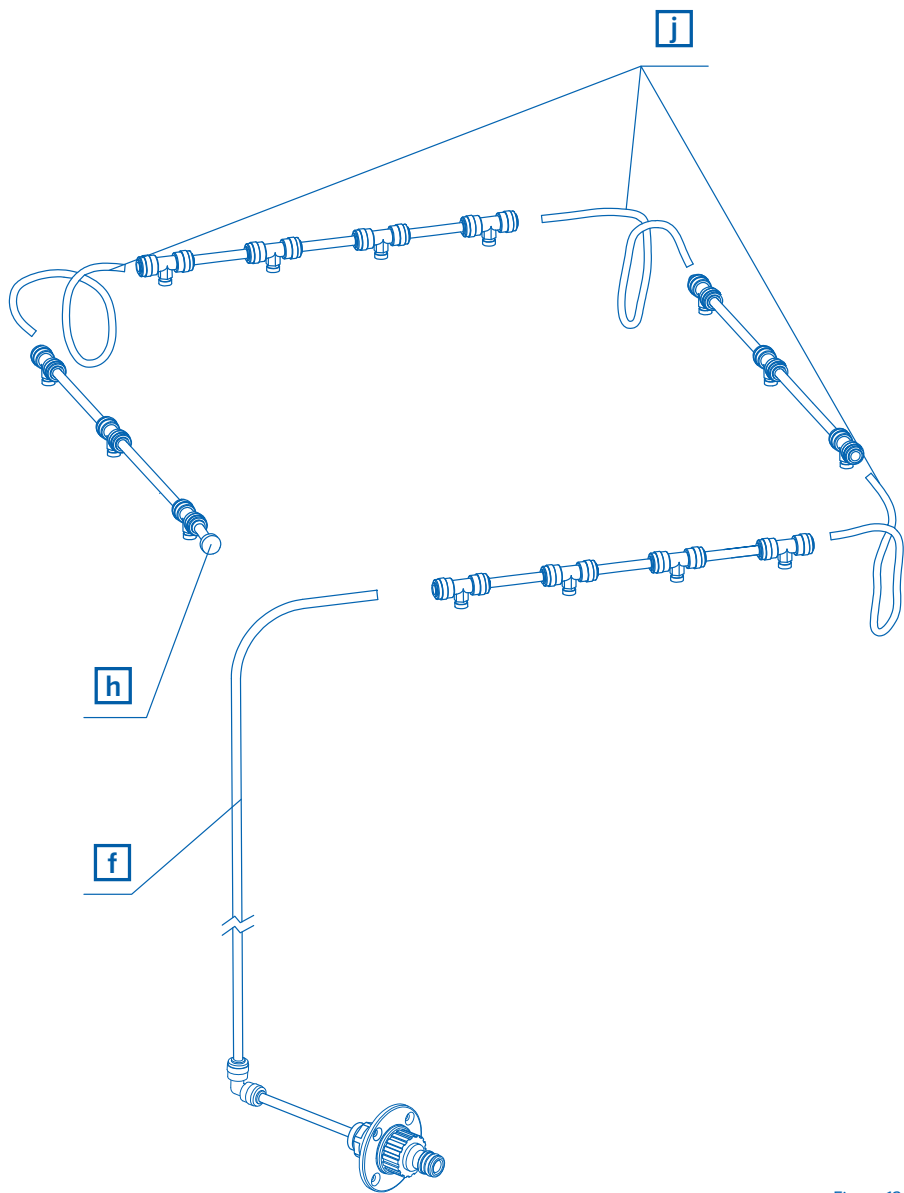

Figure 13.
Insert misting tube (f) into the first joiner of the (B) beam and then insert end cap (h) into the end of the opposite side (C). Note: follow water flow diagram (figure 13). Install water tube clips (e) to secure tubing.